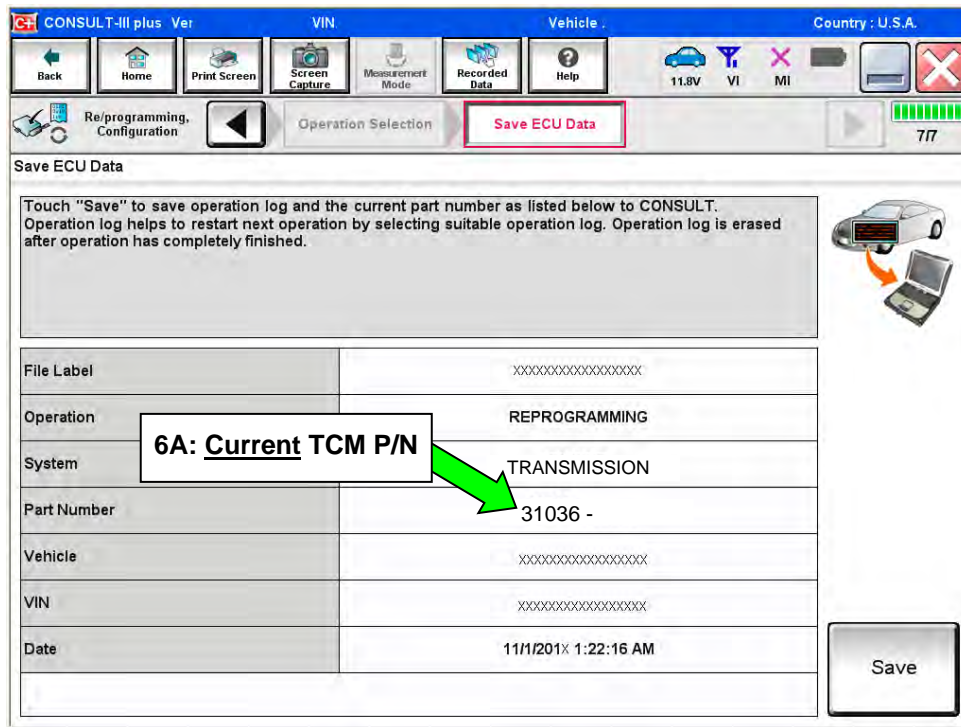

Figure 2B
5. Follow the on-screen instructions and navigate the C-III plus to the screen shown in Figure 2B on the next page.
6. When you get to the screen shown in Figure 2B, confirm this bulletin applies as follows.